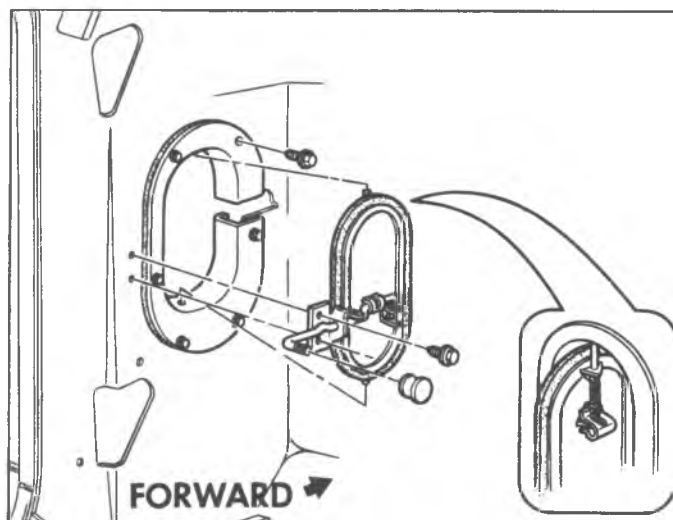

Fig. 4G—Side Cowl Ventilator
1. Remove screws retaining valve guide to panel, as shown in figure 4G.